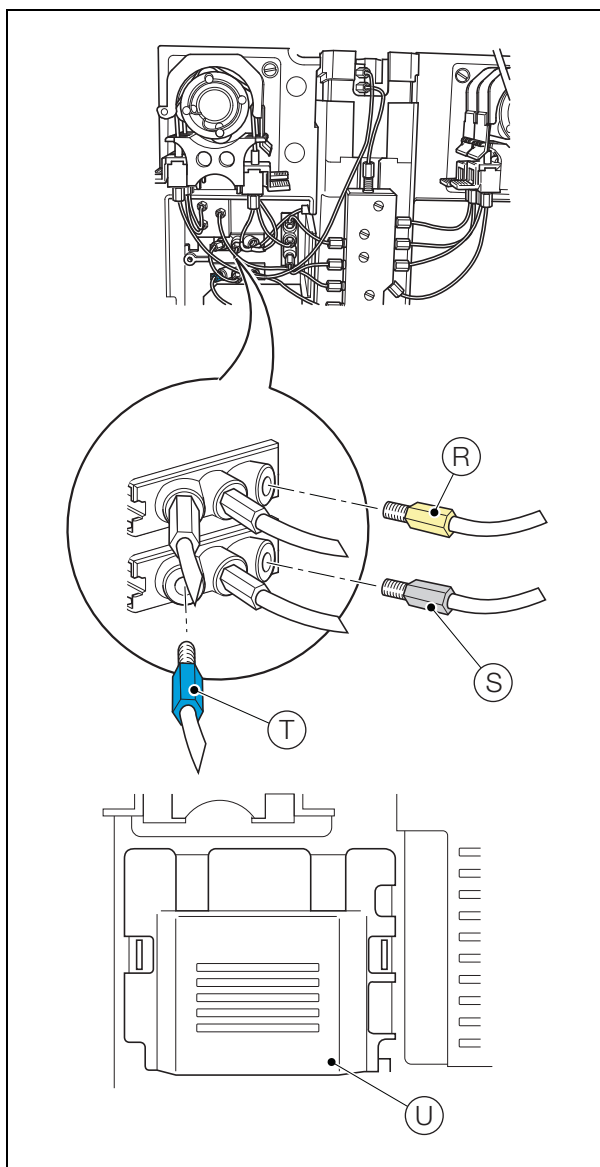

Fig. 4.11 Reconnecting the Solenoid Valves
5. Referring to Fig. 4.11:
- a. Loosely reconnect the secondary calibration solution tube (yellow) (R) to the right-hand connector on the secondary calibration solenoid valve.
- b. Loosely reconnect the cleaning solution tube (light grey) (S) to the right-hand connector on the cleaning solution solenoid valve.
- c. Loosely reconnect the sample tube (blue) (T) to the left-hand connector on the cleaning solution solenoid valve.
- e. Refit the left-hand cover (U).